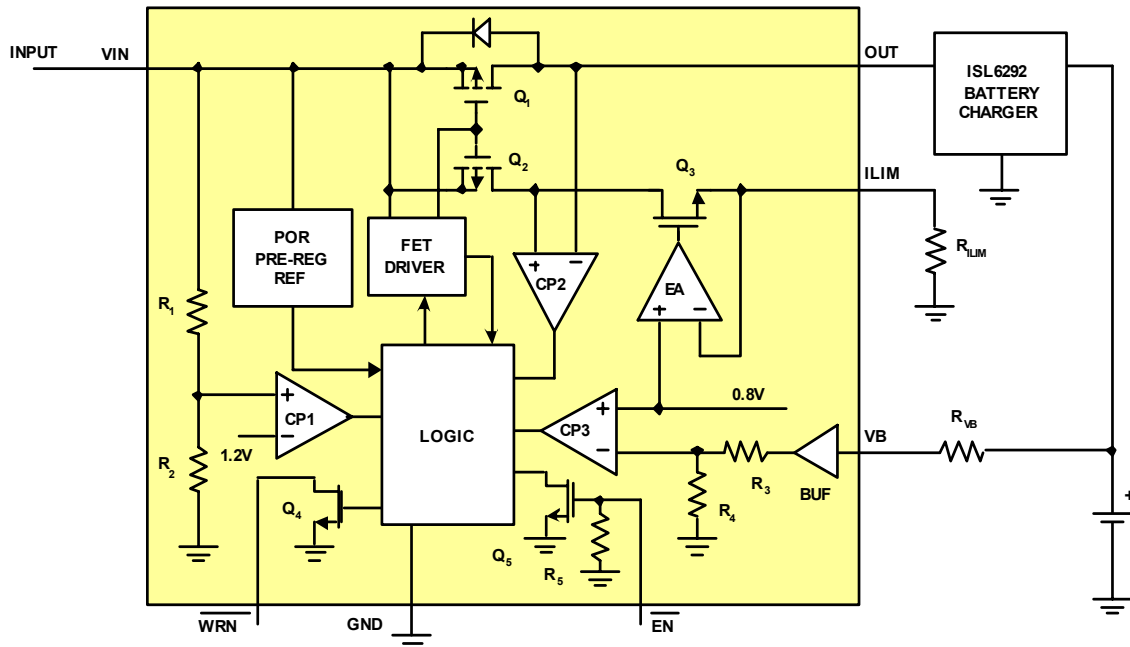
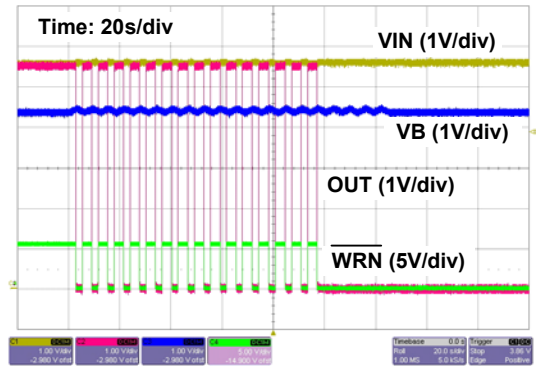

FIGURE 1. BLOCK DIAGRAM
FIGURE 7. BATTERY OVERVOLTAGE PROTECTION. THE IC IS LATCHED OFF AFTER 16 COUNTS OF PROTECTION. VB VOLTAGE VARIES BETWEEN 4.3V TO 4.5V
The input voltage is monitored by the comparator CP1 in the Block Diagram (Figure 1). CP1 has an accurate reference of 1.2V from the bandgap reference. The OVP threshold is set by the resistive divider consisting of R1 and R2. The
The battery voltage OVP is realized with the VB pin. The comparator CP3, as shown in Figure 1, monitors the VB pin and issues an overvoltage signal when the battery voltage exceeds the 4.4V battery OVP threshold. The threshold has 75mV built-in hysteresis. The comparator CP3 has a built-in 180μs blanking time to prevent any transient voltage from triggering the OVP. If the OVP situation still exists after the blanking time, the power PFET is turned off. The control logic contains a 4-bit binary counter that if the battery overvoltage event occurs 16 times, the power PFET is turned off permanently, as shown in Figure 7. Recycling the input power or toggling the enable (EN) input will reset the counter and restart the ISL9200.
The current in the power PFET is limited to prevent charging the battery with an excessive current. The current is sensed using the voltage drop across the power FET after the FET is turned on. The reference of the OCP is generated using a sensing FET Q2, as shown in Figure 1. The current in the sensing FET is forced to the value programmed by the ILIM pin. The size of the power FET Q1 is 31,250 times the size of the sensing FET. Therefore, when the current in the power FET is 31,250 times the current in the sensing FET, the drain voltage of the power FET falls below that of the sensing FET. The comparator CP2 then outputs a signal to turn off the power FET.